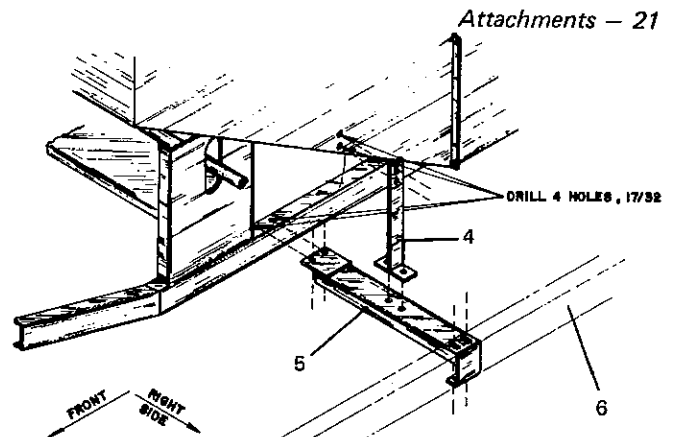
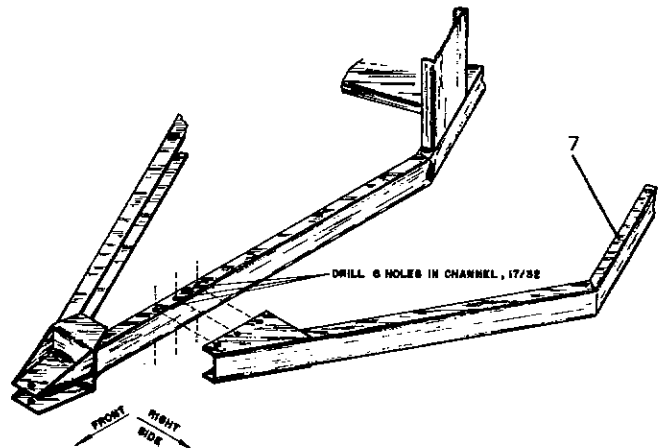

Figure 38 — Front Left Corner Attachment
Figure 39 — Front Frame Attachment
2. Set in place side rail (6, Figure 38), front cross brace (5, Figure 38) and front brace vertical bracket (4, Figure 38). Drill (4) 17/32 dia. holes as indicated on frame and mixing box and bolt together items 3, 4, 5, and 6.
3. Attach front rail (7, Figure 39) to front cross brace (5, Figure 38) and to forward part of main frame channel. See Figure 39. Clamp in place and drill (6) 17/32 dia. holes in frame channel as indicated.